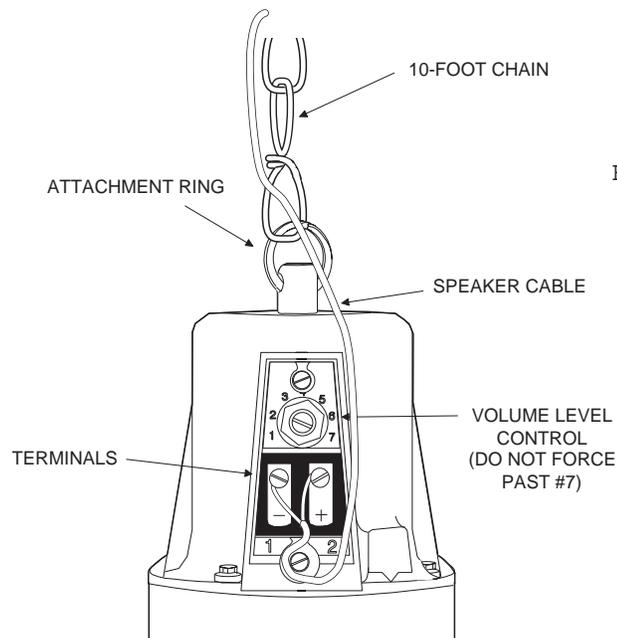

Figure 2
The 70V Suspended Radial Horn Speaker has a post and ring located on the base of the speaker (see Figure 2). The ring is used to attach the speaker post to the supplied 10-foot metal chain. The means of attaching the chain to the ceiling or other overhead structure must be sufficiently secure to withstand a pull test of 30 pounds; if local construction or safety codes specify a greater value, then that value shall govern.
2. Make the connections and dress the wire as shown in Figure 2.